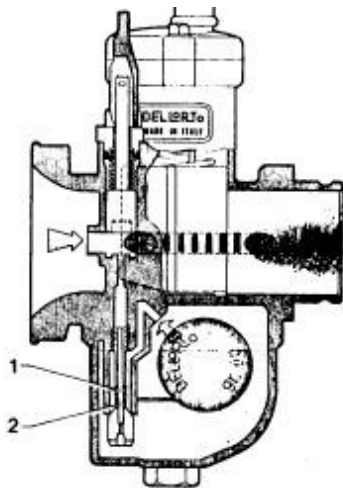

fig.16
Initially when starting, during the first few turns of the crankshaft on the kick-starter or the starter motor, the device delivers a very rich mixture. Figure 16 shows the mixture ratio depends entirely on the variety of drillings in the emulsion tube, because air passing through holes (2) draws up fuel which is standing in the jet well (1). In this period, the mixture strength is not determined by the starter jet size but only by the amount of fuel contained in the well above the holes located below the float-chamber fuel level.